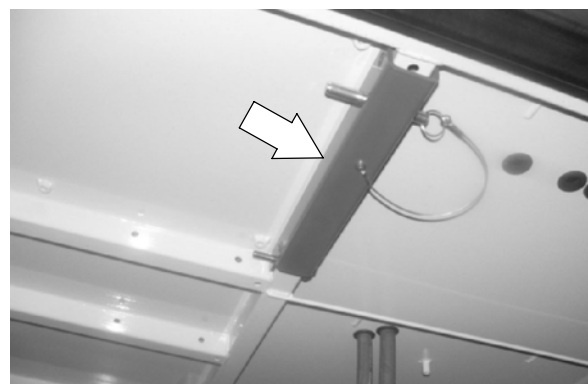

FIG. 17
29. The cab prop arm is located on the passenger side bottom of the cab. Engage the prop arm when the cab is in the forward tilted position. Refer to Fig. 17.